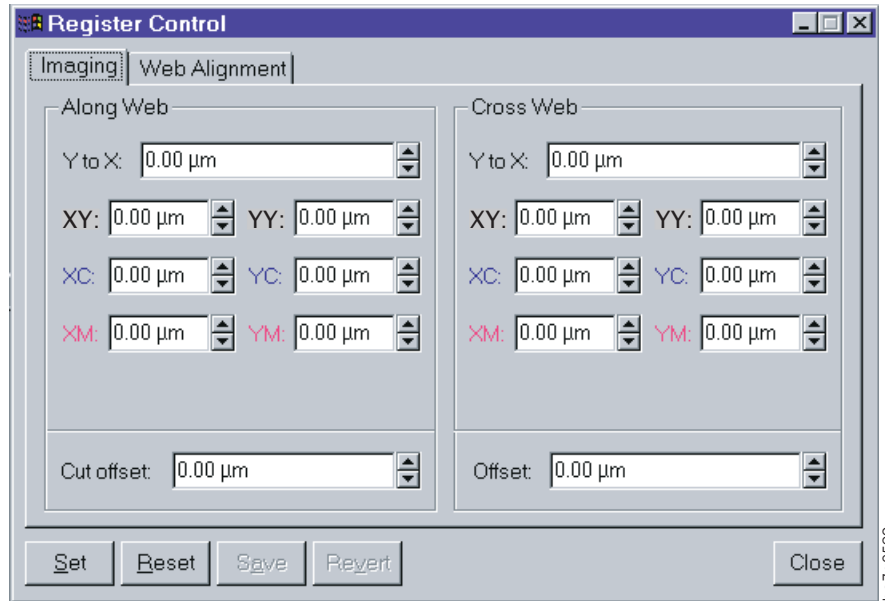

Figure 181. Register Control Window
3. Open the Register Control window, as shown in Figure 181 on page 210.
4. While printing, adjust the registration values in the **Register Control** window as shown in Figure 181.